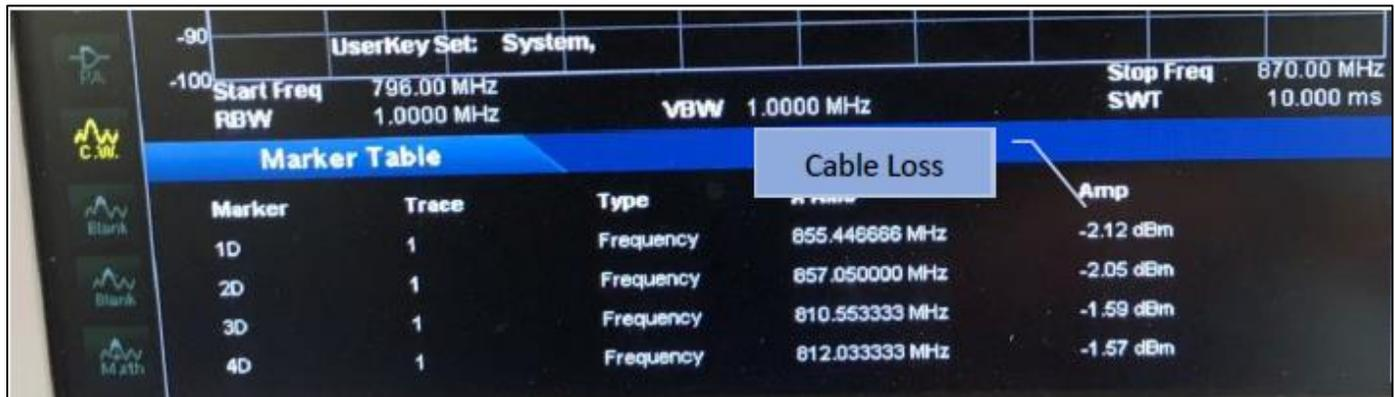

Figure 1.3
4. The marker table will display the total cable loss on marker 1D (See Figure 1.3):